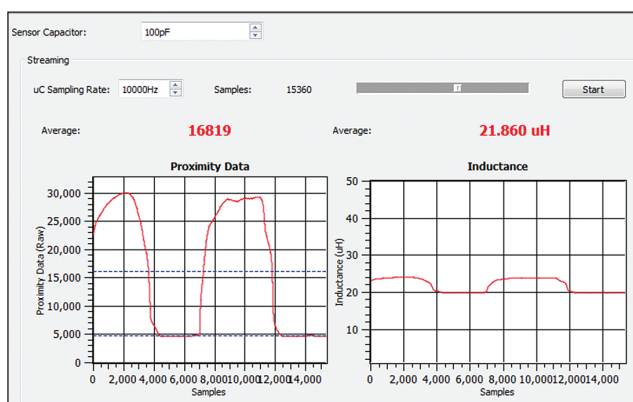

Fig.1 Example data capture
Note: On the streaming screen (Fig. 1), make sure to STOP data capture when making changes to register settings and START data capture to apply the changes
7. Move conductive target near to/far from coil, and observe LDC response (as in Fig. 1)